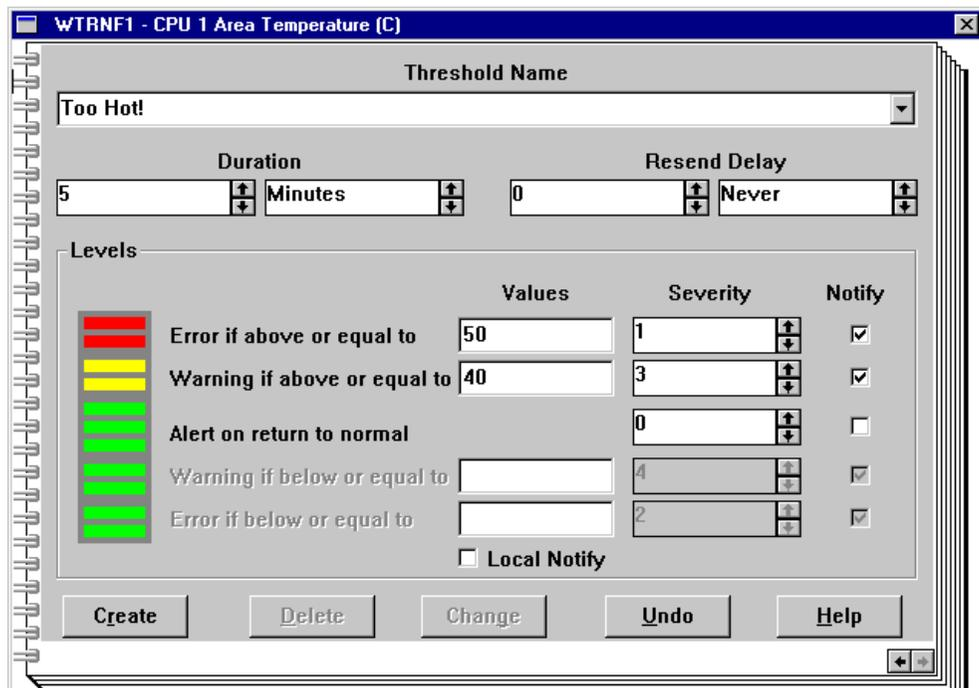

Figure 156. System Temperature Threshold Settings
3. Open the threshold settings window by either double-clicking the monitor or right-clicking the monitor and selecting **Open -> Threshold**. Figure 156 appears:
You now need to configure the threshold, as shown in Figure 156.
If you want an alert to be sent locally on the threshold you have to select the **Notify** check box. We do want this to be sent so leave this as shown in Figure 156. For an example of how to use this see 7.7, "Example 7: Application Failure and Restart" on page 235.
The **Local Notify** check box in Figure 156 is only seen if accessing from a remote manager and is useful if you want all alerts to be handled by one machine. If you want the threshold to generate a Netfinity alert on the system on which the threshold is being configured (thus enabling the local system to use its Alert Manager to respond to the alert), mark the **Local Notify** check box.